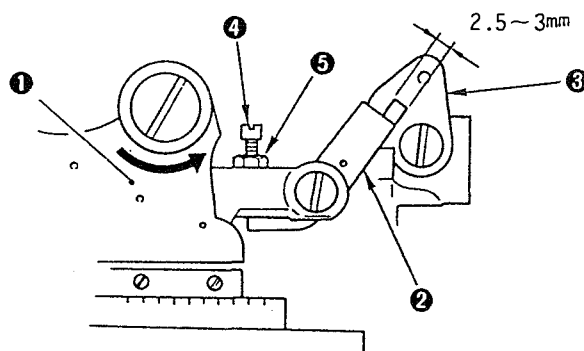

Fig. 56
(19) Adjusting the stop-motion tripping lever
When the bartacking base turns counterclockwise until stop-motion tripping lever ② comes in contact with the square projection of stop-motion latch ③, the overlapping length of the stop-motion tripping lever and the stop-motion latch should be 2.5 to 3 mm as illustrated in Fig. 56.